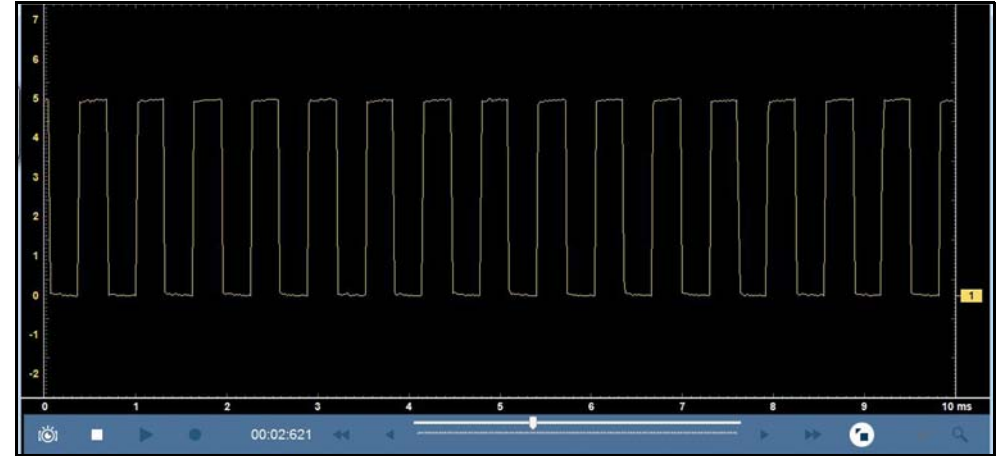

Figure 8-31
- **Control Panel Off**— the control panel is not displayed, only the meter screen is shown (Figure 8-31)